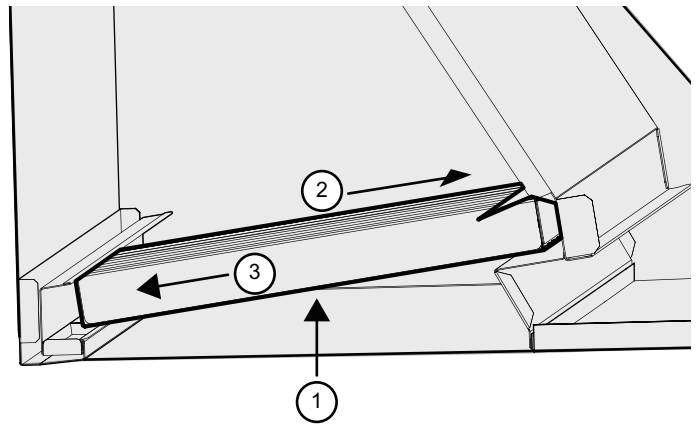

Figure 32: Filters
- 2) **Filters** — Slide filter over the front lip. Push filter rear up, then slide back over rear lip (Figure 32).